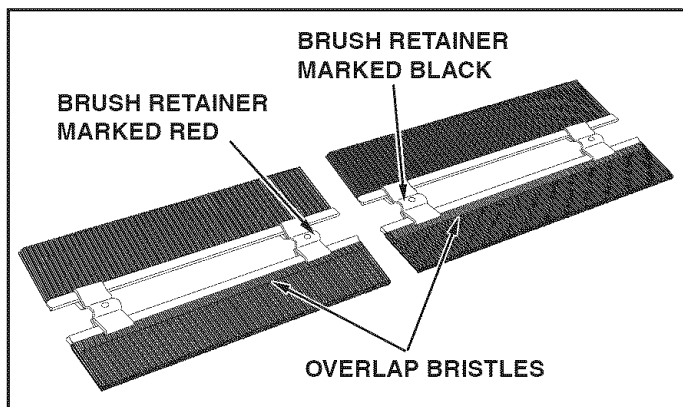

FIGURE 1
- (1) Hammer
- (2) 1/2" Wrenches
- Each brush assembly has one brush retainer marked with either red or black ink. Lay out the brush assemblies as shown so that the brush retainers marked with ink are in the middle with the black one on your right and the red one on your left. See figure 1.